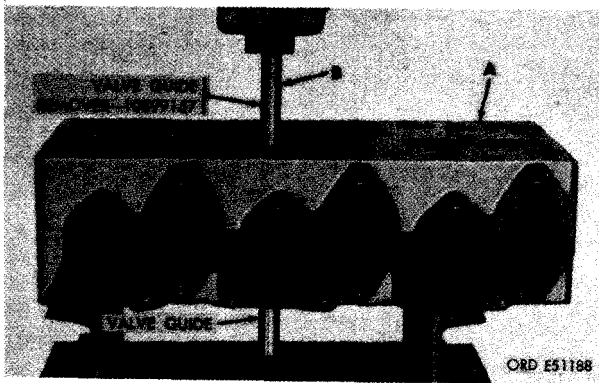

FIGURE 389. REMOVING VALVE GUIDE FROM CYLINDER HEAD USING VALVE GUIDE REMOVER - 10899157.
- (4) Valve guide replacement. Replace cracked, galled, eroded, or scuffed intake and exhaust valve guides (K-9) or guide which does not meet limits specified in repair and rebuild standards (par. 294). Replace valve guides as follows.
- (a) Figure 389. (A) Position cylinder head on press plates as shown so that valve guide being removed is directly below arbor press ram. Insert small end of valve guide remover - 10899157 through valve stem bore of guide. (B) Press valve guide from cylinder head.